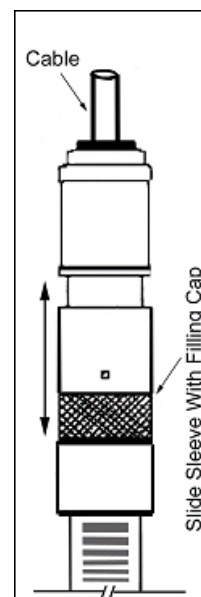

Figure 2:Reference Fill Cap
- a) Slide the sleeve of the electrode cap down to uncover the fill hole (see Figure 2)
The filling hole must remain open during measurements (see Figure 2).